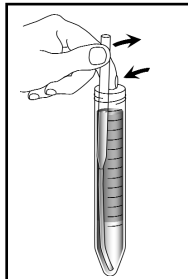

Figure 5
10. Insert the CHEMet assembly (tubing first) into the reaction tube making sure that the end of the flexible tubing is at the bottom of the tube. Break the tip of the CHEMet ampoule by gently pressing it against the side of the reaction tube (fig. 5). The ampoule should draw in fluid only from the organic phase (bottom layer).